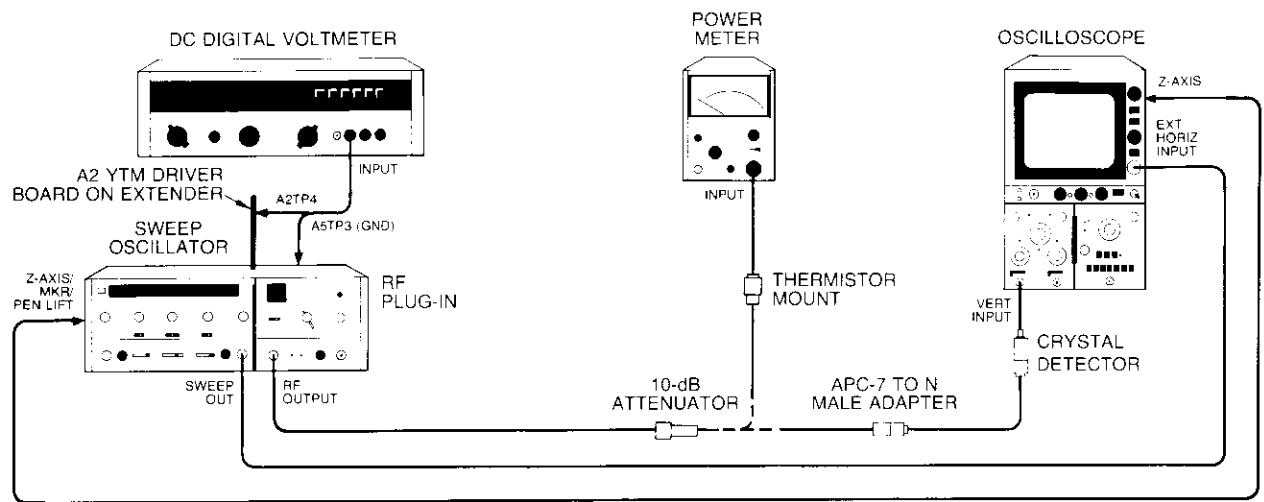

Figure 5-4. YTM Slow Speed Tracking Adjustment Test Setup
- (1) Connect DVM as shown in Figure 5-4 with HIGH lead connected to A2TP1 and LOW lead to A2TP3.
- (2) Remove A5 SWEEP CONTROL Assembly. Press 8620C LINE switch ON. Select Band 1.
- (3) Adjust A2 ZERO control A2R27 for DVM indication of 0.0000 V dc \pm 0.0001 Vdc.
- (4) Press 8620C LINE switch to OFF, Reinstall A5 SWEEP CONTROL Assembly. Press 8620C LINE switch ON. Select Band 3.
- b. Connect equipment as shown in Figure 5-4 with oscilloscope connected to 86290A RF OUTPUT. Install A2 YTM Driver Assembly on extender board (Figure 1-1). Set ALC Function switch A5S1 Position #3 Up (ON).